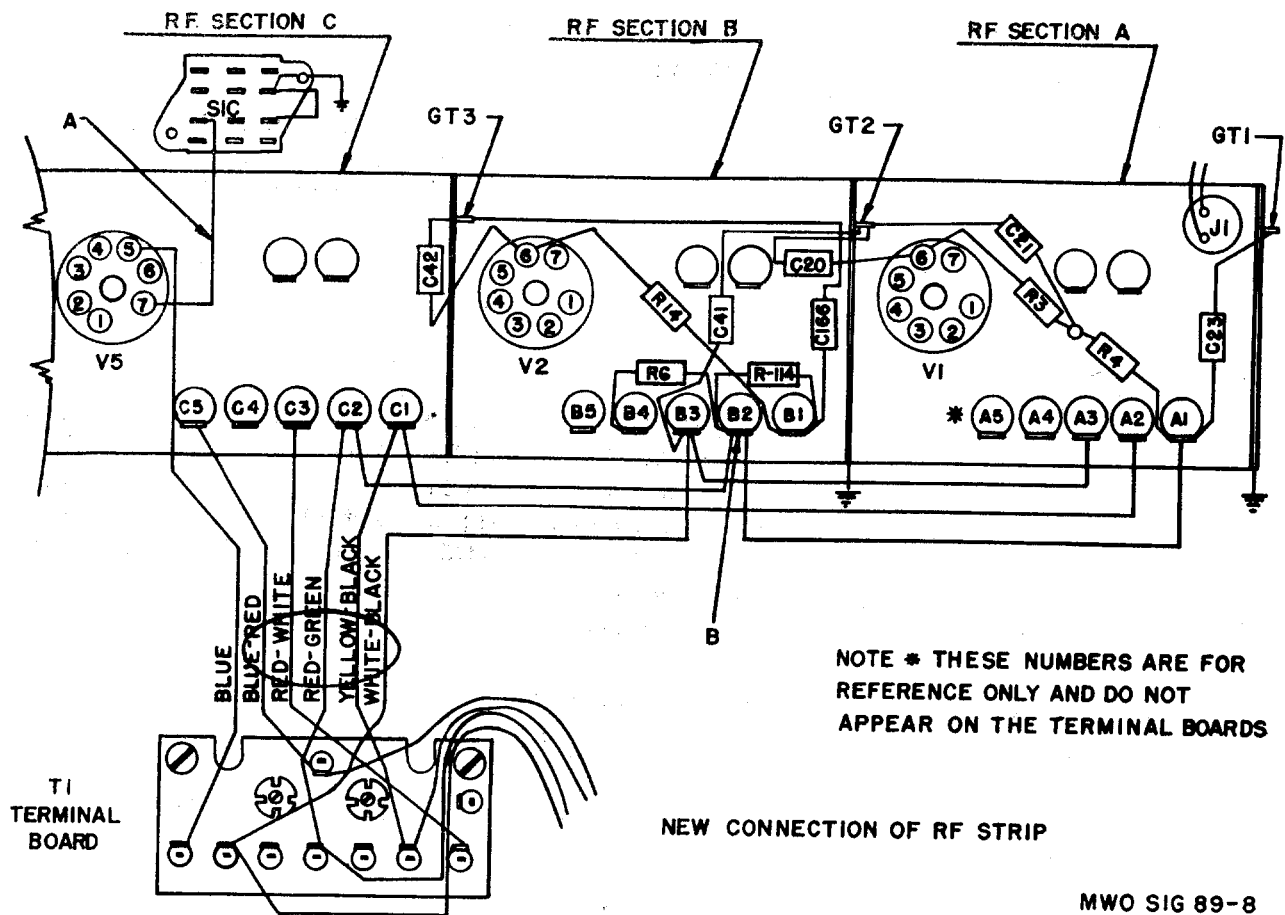

Figure 8. New connection of r-f strip.
- (9) Connect and solder a suitable length of white-black wire between pin No. 7 of tube socket V5 and terminal No. 6 of the ceramic switch stator S1C as shown at A in figure 8.
Note. In some receivers, resistor R14 is connected between pin No. 6 of tube socket V2 and the junction of resistors R5 and R6. In these sets, resistors R14 should be reconnected in accordance with figure 8.
- (14) Connect and solder a .01- μ f capacitor (C156) between terminal B1 and chassis ground terminal GT3 as shown in figure 8, if one is not connected in this position.
- (15) Unsolder and remove the green-red lead connected to terminal B1 shown at E, figure 7 (the other end of the lead terminates at terminal A1), and connect and solder it to terminal B2 as shown at B, figure 8.
- (17) Connect and solder a 1,000-ohm, 1/2-watt resistor (R114) between terminals B1 and B2, as shown in figure 8, if a 1,000-ohm resistor is not at this location.
- (18) Check the wiring in accordance with the diagram shown in figures 8 and 9.
- (19) Replace the r-f strip in its original position; use the original screws and lock washers.
- (20) Reconnect and solder the six original leads to the terminal board of T1.
- (21) Reconnect and solder in their original positions the 12 leads and 4 ground straps that connect the r-f strip with the tuning capacitor terminals.
- (22) Replace the cover to transformer T1; use the original cap nuts.
- (23) Reconnect and solder the bare lead to switch S3 in its original position.
- (24) Replace the top cover to the capacitor tuning unit housing in its original position; use the original screws and lock washers.
Page 9. Paragraph 10i(14). Change subparagraph (14) to read: Connect and solder a 0.01 μ f, 600 vdcw capacitor (C166) between terminal B1 and chassis ground terminal GT3 as shown in figure 8, if a capacitor is not already connected in this position.